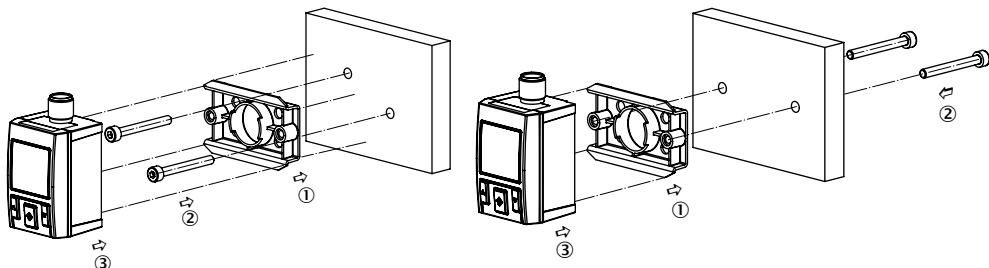

Figure 12: Installation with a wall mounting set
5.5 Pressure connection via the plug connection for the pneumatic hose (push-in fitting, Figure 12)